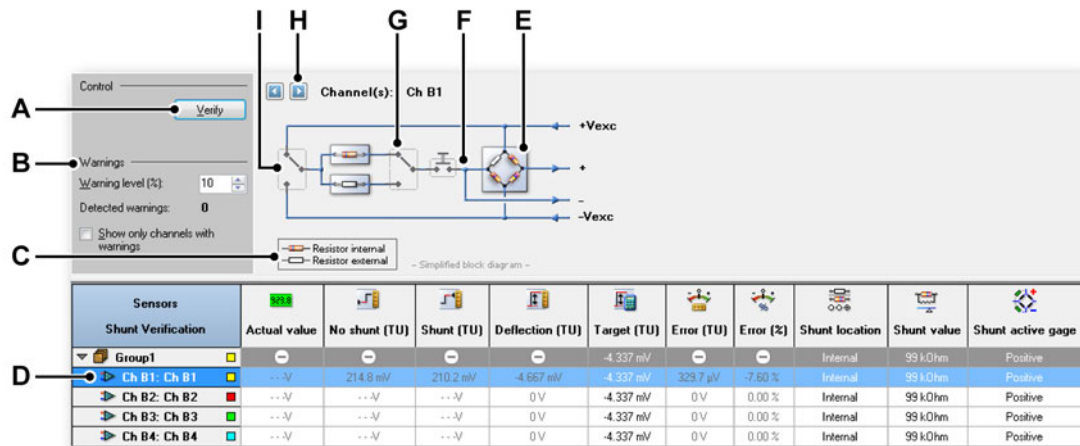

Figure 12.21: Shunt Verification dialog
- 8 Select between internal or external shunt usage: in the **Internal shunt** column enable internal to use an **internal** shunt or clear the option to select an **external** resistor. Make the appropriate value setting as described earlier. You can also click on the switch in the diagram (**G** in Figure 12.21).
- 9 Select the bridge arm: use the **Active gage** column to select between **Positive** (A-C) or **Negative** (C-D). You can also click on the switch in the diagram (**I** in Figure 12.21).
- 5 Enter a value as **Target** : the target value is the result of the bridge value, excitation value and shunt value. Tables exist for commonly used values. As an example refer to Figure 12.16. In Figure 12.21 on page 273 the value is used that corresponds to a 350 Ω bridge, 20 k Ω shunt - therefore a 4.337 mV deflection per volt excitation - and 1 volt excitation.